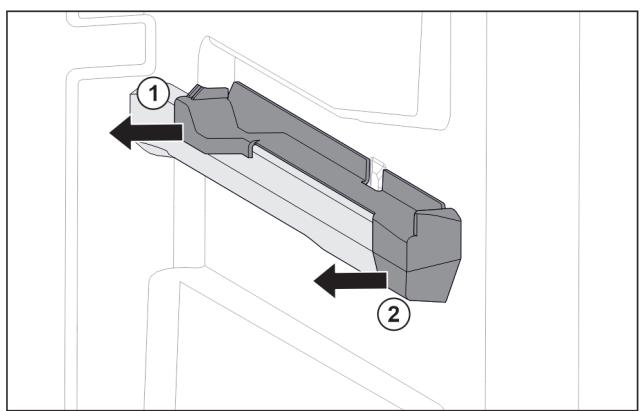

Fig. 125 Attachment on the right moulded rib
- ▶ Pull off attachment at the back sideways. Fig. 125 (1)
- ▶ Pull off attachment at the front sideways. Fig. 125 (2)